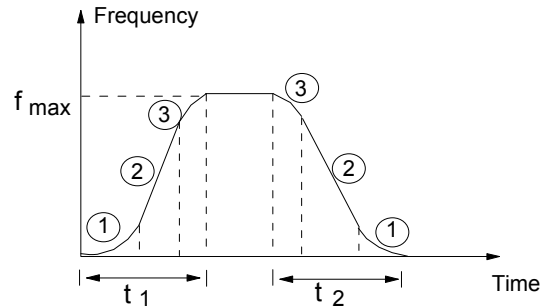

Fig. 5-12 S-ramp Acc/Dec
Output frequency increases or decreases following a S-shape curve, as shown in Fig. 5-12.
The initial stage of S-shape curve is shown in Fig. 5-12 as "①", where the changing rate of output frequency increases from 0;
Rising process of S-shape curve is shown in Fig. 5-12 as "②", where the output frequency's changing rate is constant;
Ending process of S-shape curve is shown in Fig. 5-12 as "③", where the changing rate of output frequency decreases to 0;